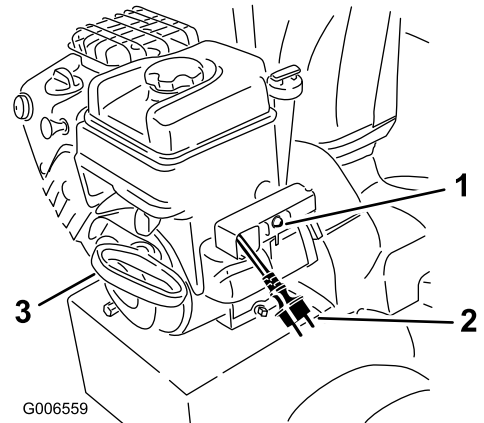

Figure 33
7. Start the machine by pulling the recoil starter or pressing the electric-starter button (Figure 33).